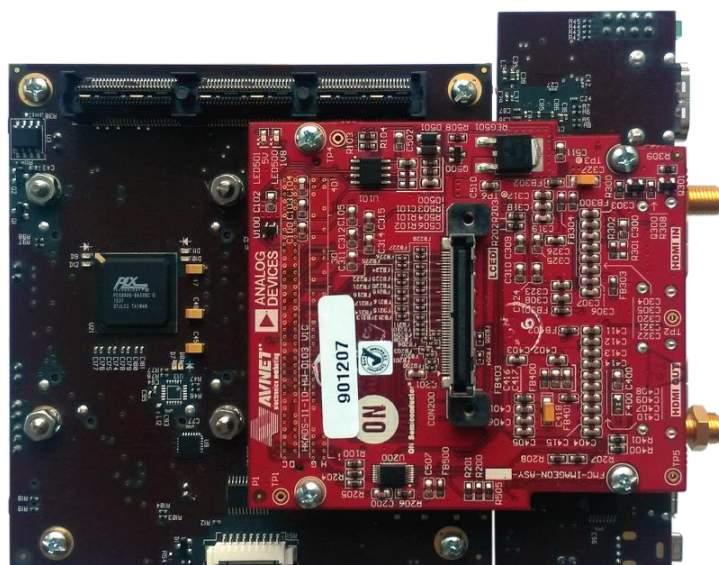

Figure 1: Sundance EMC2-DP v2 carrier board, FPGA SoM Trenz TE0715-7030 (the SoM is located on the bottom side of the carrier) and FMC IMAGEON extension card.
- Hardware built from Sundance EMC2-DP v2 carrier board [1], FPGA SoM Trenz TE0715-7030 [2] and FMC IMAGEON extension card [3], see Figure 1.